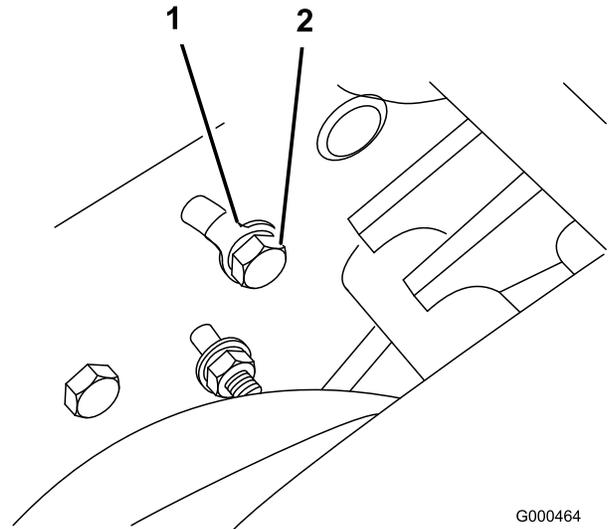

Figure 46
- A. On back side of side plate, loosen the bolt securing the idler bracket to the side plate (Figure 46).